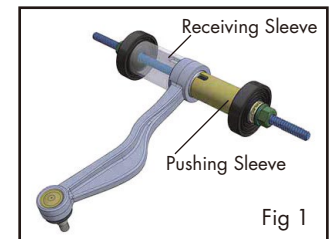

Fig 1
4. Insert both receiving sleeve and step disc through the spindle, and fasten the nut (Fig 1).